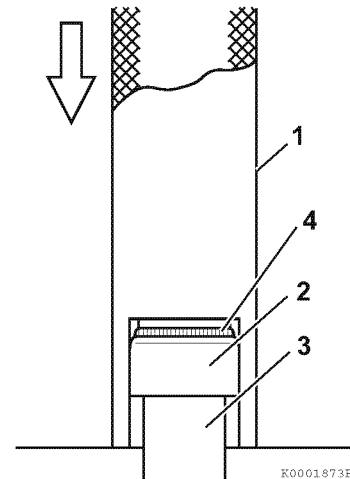

Figure 6-26
The exhaust valve stem seals are different than the intake valve stem seals and can be identified by the color the seal spring (Figure 6-26, (4)). Ensure they are installed in the correct locations.
1. Oil the lip of the valve stem seal (Figure 6-26, (2)). Using the valve stem seal installation tool (Figure 6-26, (1)), install a new valve stem seal on each of the valve guides (Figure 6-26, (3)).